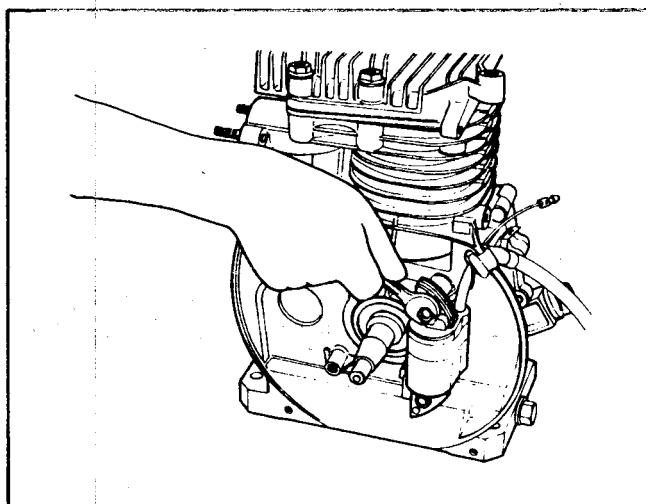

Figure 40
9. The ignition on T2500 and T3000 generators is now exposed. See Figure 40.